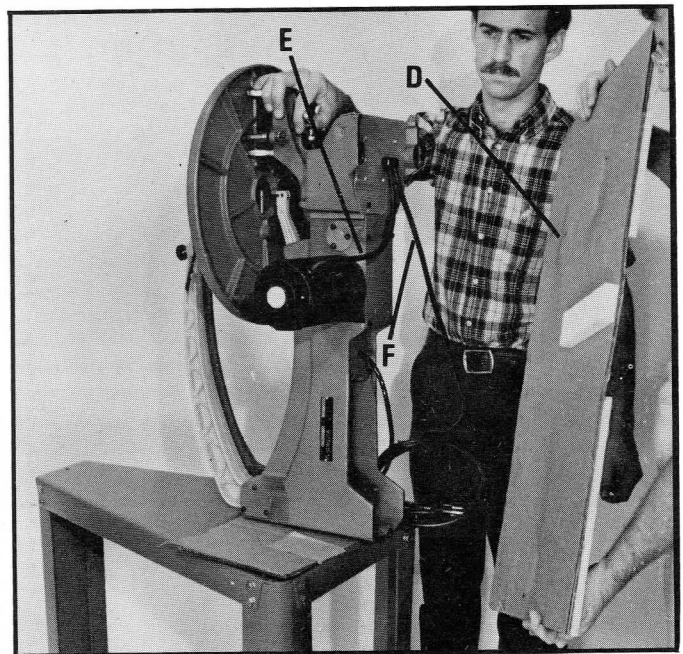

Fig. 8
3. Remove the mounting board (D), as shown in Fig. 8.
4. Make sure motor cord (E) and power cord (F) Fig. 8, are not crossed and assemble the saw to the top shelf using the three 1/4-20 x 1/2" Button Head screws and 1/4" lockwashers, supplied. NOTE: The T-wrench supplied can be used to assemble the saw to the stand.